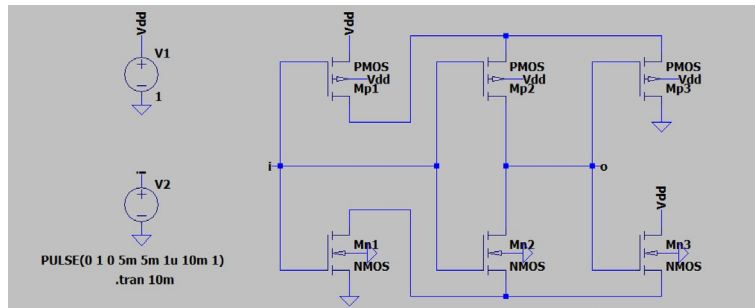

Fig.1b
- CMOS Schmitt trigger, as shown in Fig.1b using the nmos4 and pmos4 ideal parts: